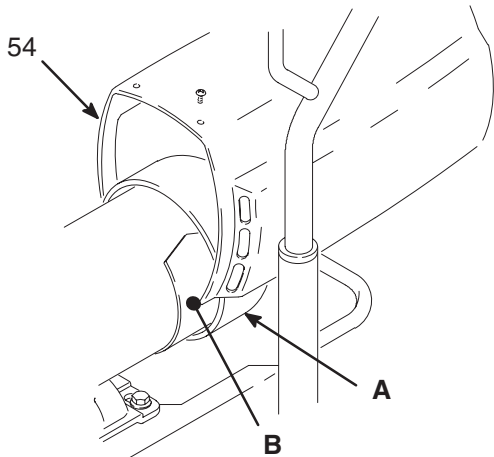

Fig. 9
2. Remove motor shield (54), fan cover (A) and inspection covers (82). See Fig. 9.